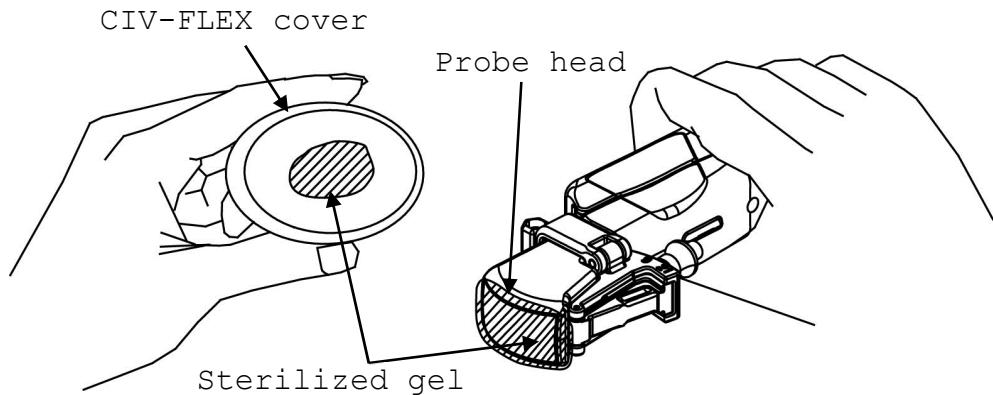

Fig. 8 Placing the gel
- 1) Place an appropriate amount of gel inside the cover and/or on the Probe head. (See Fig. 8)